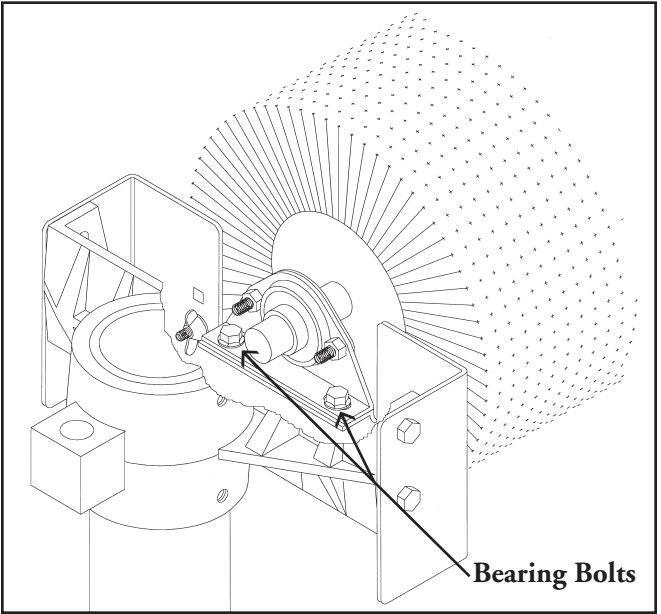

Fig. 19 Removing brush head.
2. Remove the bearing bolts (Fig. 19) and lift brush out of machine.
Step 1. Loosen the set screws in the bearing collar. Leave the set screw wrench in one of the set screws. Then rotate the brush within the bearing and tighten the set screws (Fig. 19 and 20).
Changing the brush on the SUPERBRUSH is relatively simple. To begin, first disconnect power source to the machine. Lower the motor to its lowest position using the brush speed control handle. Raise the motor to its highest position. This loosens the V-belt tension so the V-belt can be lifted off the driven pulley. Loosen and remove bearing bolts (Fig. 19 & 22) Lift brush out of machine. Loosen set screws of bearing collars and pulley. Remove bearings and pulley and install on replacement brush, if needed.